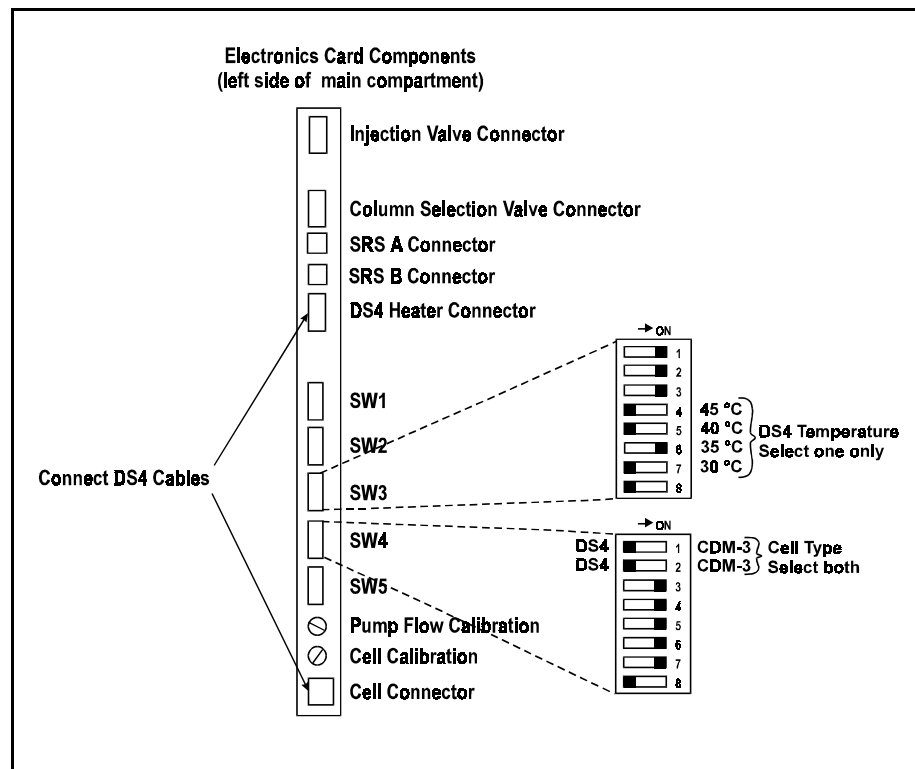

Figure B-19. DS4 Cable Connections and DIP Switches
3. Plug the connectors on the cables into the appropriate jacks on the electronics card (see Figure B-19).
7. Select a DS4 temperature set point (SW3-4, 5, 6, or 7) (see Figure B-19). Select a temperature at least 5 °C above the highest expected ambient temperature.
8. Set the Cell Type DIP switches (SW4-1, 2) to the off (DS4) position (see Figure B-19).
3. Route the cell cable to the electronics card at the left rear of the main compartment and plug the cable connector into the Cell Connector jack on the card (see Figure B-19).
6. Set the Cell Type DIP switches (SW4-1, 2) to the on (CDM-3) position (see Figure B-19).